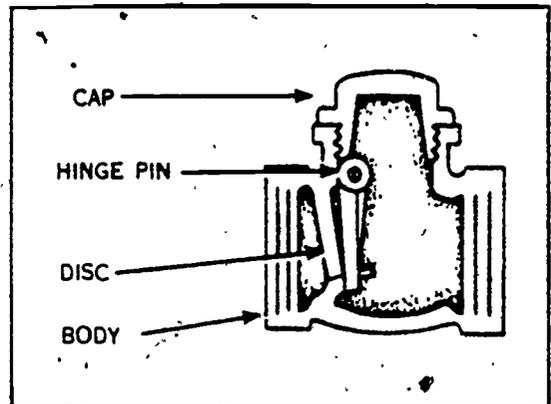

Figure 1-41. Cross section of a check valve.
**a. Swing check valve.** A swing check valve, of which a cross-section is shown in figure 1-41, contains a hinged disc which seats against a machined seat in the tilted bridge wall opening of the valve body. The disc swings freely on its hinge pin in an arc from a fully closed position to one parallel with the flow. The fluid or gas in the pipeline enters below the disc. Live pressure overcomes the weight of the disc and raises it to allow a continuous flow. If the flow is reversed, pressure is exerted against the disc, forcing it to close and stop the flow.